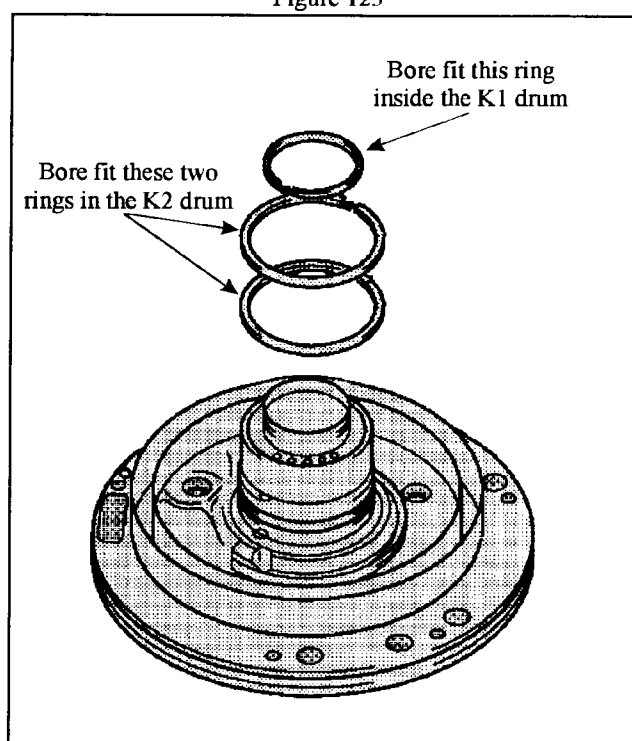

Figure 124
6. Bore fit the smaller pump stator ring in the K1 clutch drum. Bore fit the two larger pump stator rings in the K2 clutch drum. Make sure all three rings fit snugly in the drums, then place them on the stator support and lock the tabs into place. Coat with a small amount of vaseline to aid in the assembly (See Figure 124).